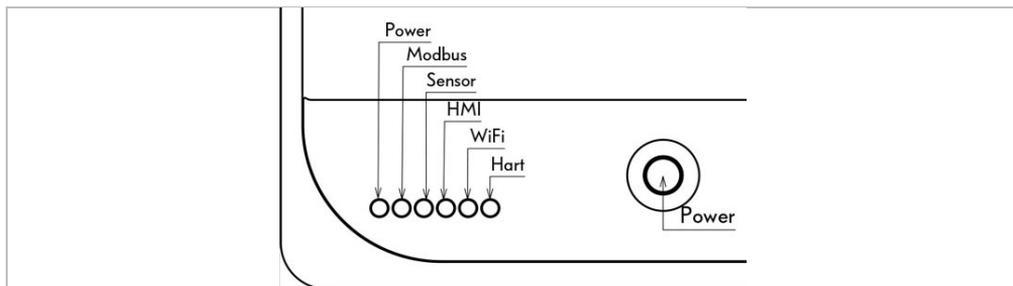

Figure 8-1 Front Panel LEDs
- 3- **Front Panel LEDs:** There are six LEDs on the Display/Control unit bellow the Touch Screen display, Power, Modbus, Sensor, HMI, WiFi and Hart which indicate the normal status of the device operation. (see **Figure 8-1**)